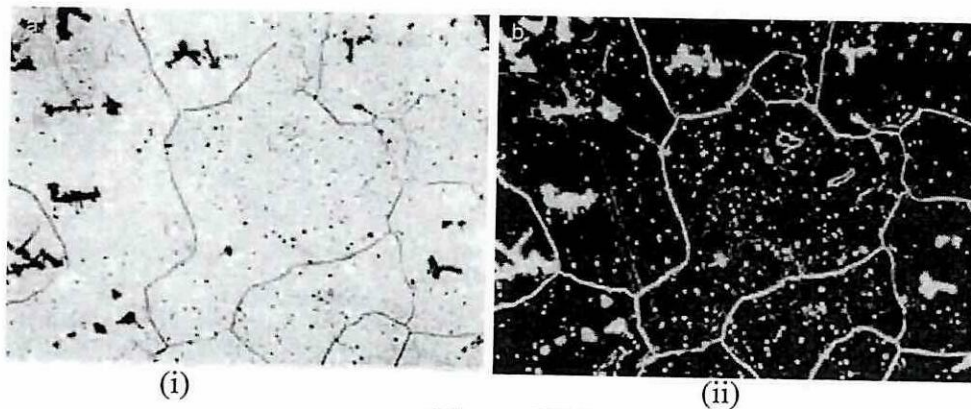

Figure Q3.1
- (d) Select THREE (3) hardness indenters with justification the method that commonly used in the laboratory. (7 marks)
- Q2** (a) Identify FOUR (4) Non Destructive Testing for surface inspection. (4 marks)
- (d) Select THREE (3) visual inspection that are used for storage tank and pipeline. (7 marks)
- (b) Identify TWO (2) purposes of sectioning. (2 marks)
- (e) Evaluate the images in **Figure Q3.1 i** and **ii** and explain the imaging formation. (7 marks)